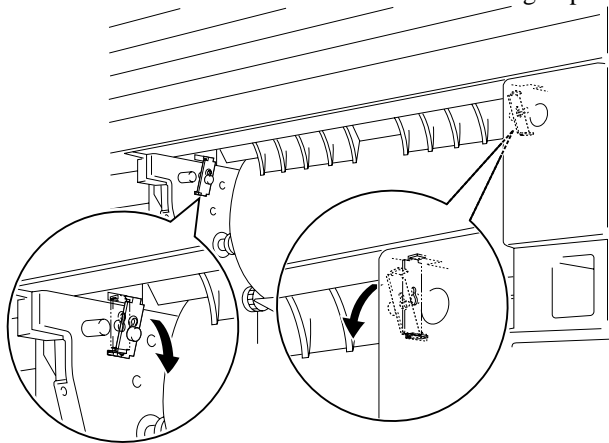

Fig. 5-20 Remove and release the Metal retaining clips
3. Remove the screws as shown below (Fig. 5-20) inside the Rear Access Cover and release the metal retaining clips.